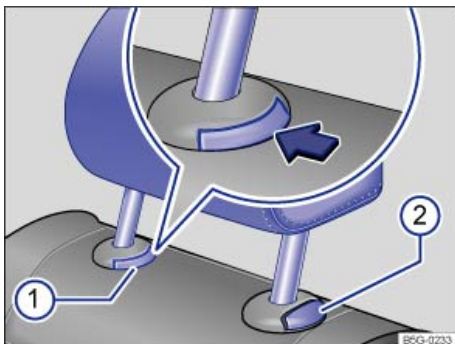
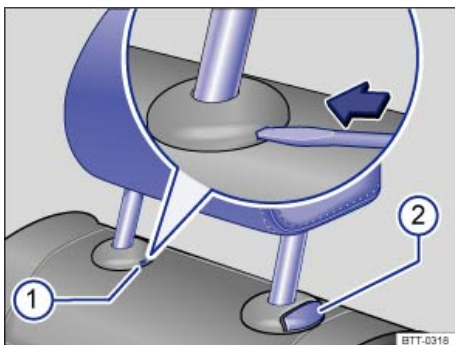

Fig. 42 Removing the rear head restraint (version A).
Fig. 43 Removing the rear head restraint (version B).
- Push button ⇒ fig. 42 \(1\) in the direction of the arrow and hold it in this position.
- If necessary, press the flat blade of the screwdriver from the vehicle tool kit into the slit of the trim cap ⇒ fig. 43 \(2\) in the direction of the arrow and hold it in this position.
- Push the head restraint down while pressing button ⇒ fig. 42 \(2\) or ⇒ fig. 43 \(2\).